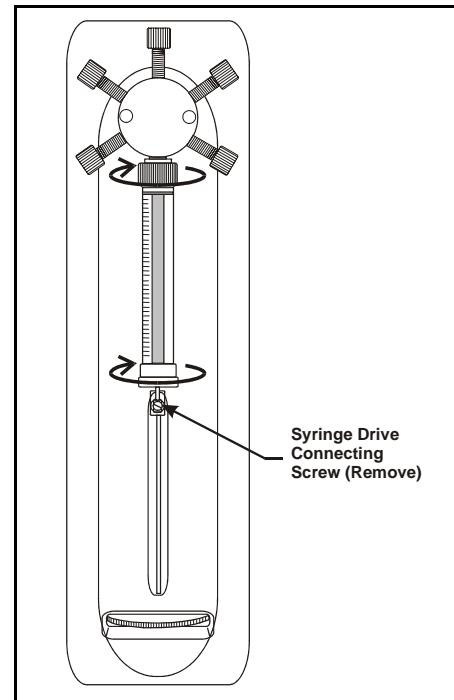

*Figure B-15. Initiating a Priming Cycle*
2. Press **Menu** and **6** to go to the **FLUSH** screen (see Figure B-15).